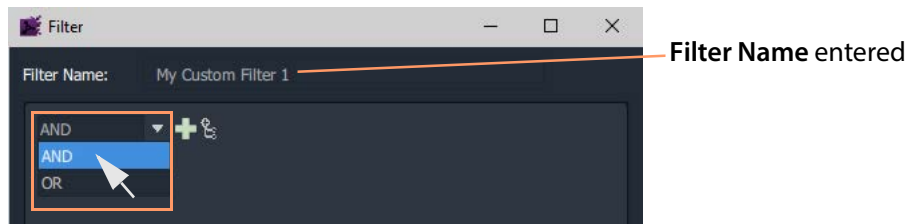

Fig. 13-57: Select AND
- 3 Select AND as the first (top-level) logical combination item with the drop-down menu button. See Figure 13-57.